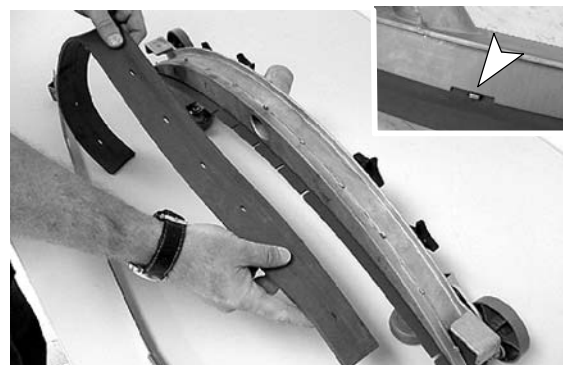

FIG. 53
3. Rotate the rear blade to a new wiping edge and reinstall the band. Make sure the notched edge of the band is facing downward (Figure 53).